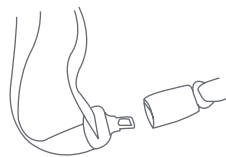

Fig. 45-2
10. A lap/shoulder combination seat belt with a **buckle that can slide freely** along the seat belt may require the use of a locking clip (Fig. 45-2). Check your vehicle's owner's manual to see if the vehicle manufacturer has provided an alternate manner, such as a locking retractor in which to prevent movement of the lap portion of the seat belt.